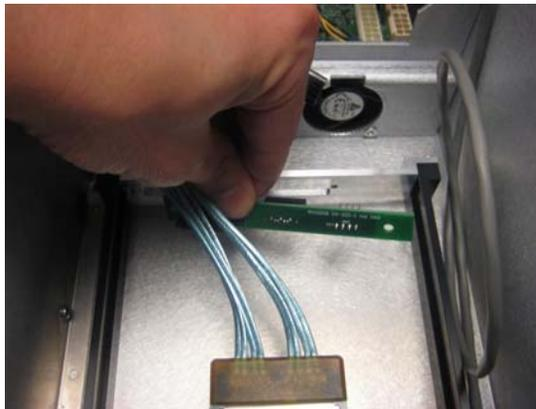

Figure 3-66
- 7) Gently remove the CD/DVD backplane as illustrated in Figure 3-66.